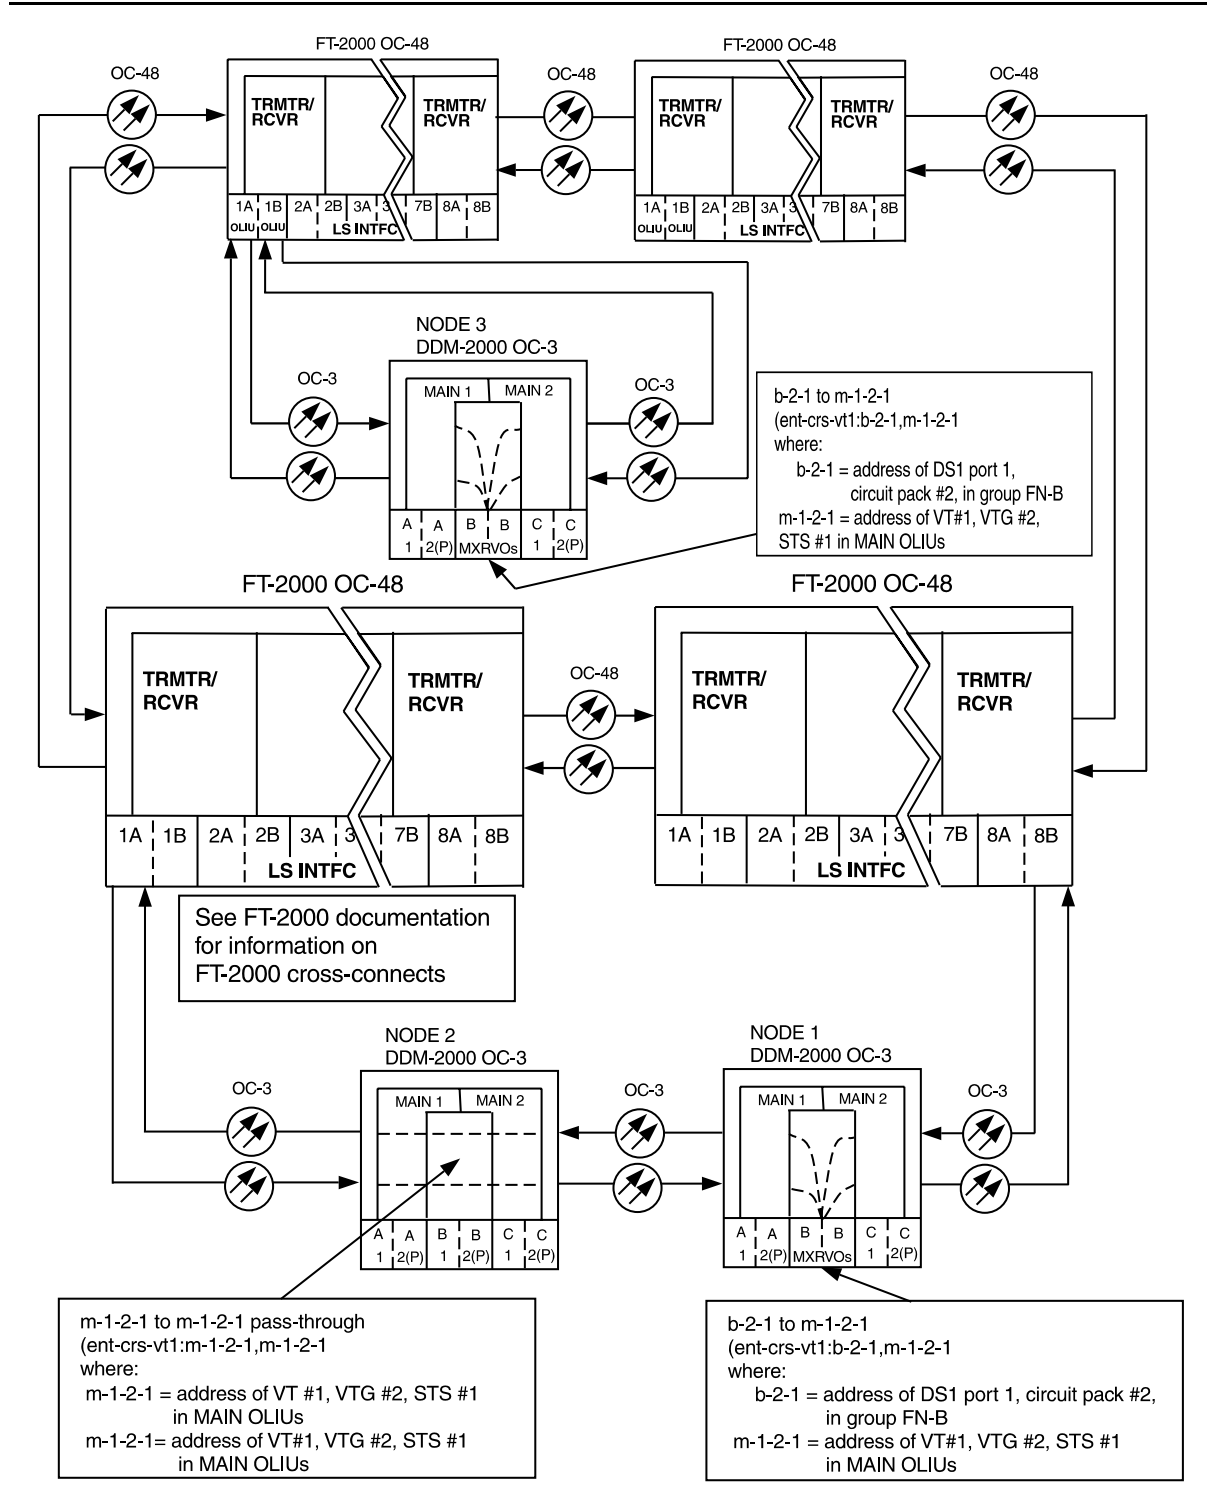

Figure 4 – Example of Single/Dual Homing OC-48/OC-3 Cross-connections
11. At both terminating (drop) nodes of the circuit being established, use the `ent-crs-()` command to make the terminating cross-connections at OC-3 or OC-12 nodes (for example at the OC-3 or OC-12 Node 2 and 3 in Figures 4 through 7, `ent-crs-vt1:m-1-2-1,b-2-1:cct=twoway`).